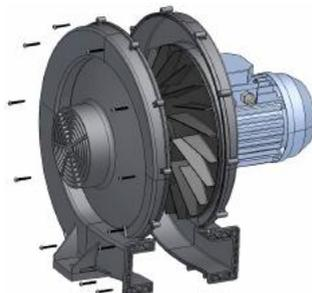

FIGURE 5
3. Secure the inlet housing to the previously assembled group using n°12 KC40 x 30 screws (bolts supplied). Tighten the screws to a max. torque of 5Nm (FIGURE 5).